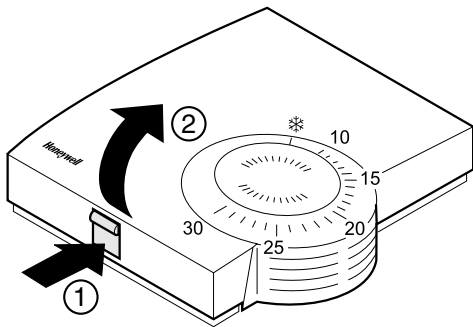

Fig. 10: Removing the housing cover
- ▶ Remove the housing cover of the room unit HCW 80 (see Fig. 10).
- ▶ Remove the housing cover (see Fig. 10, Page 6).
- ▶ Remove the housing cover of the HCW 80 (see Fig. 10, Page 6).